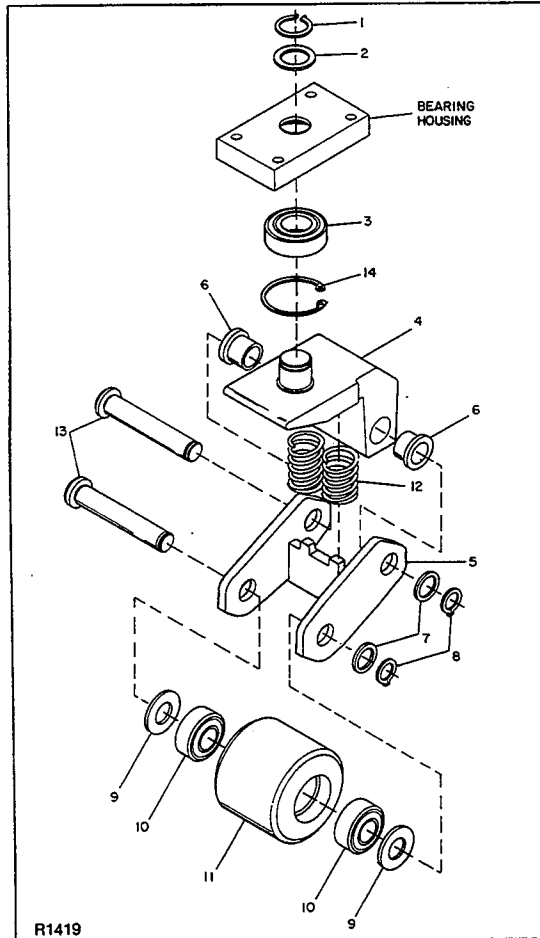
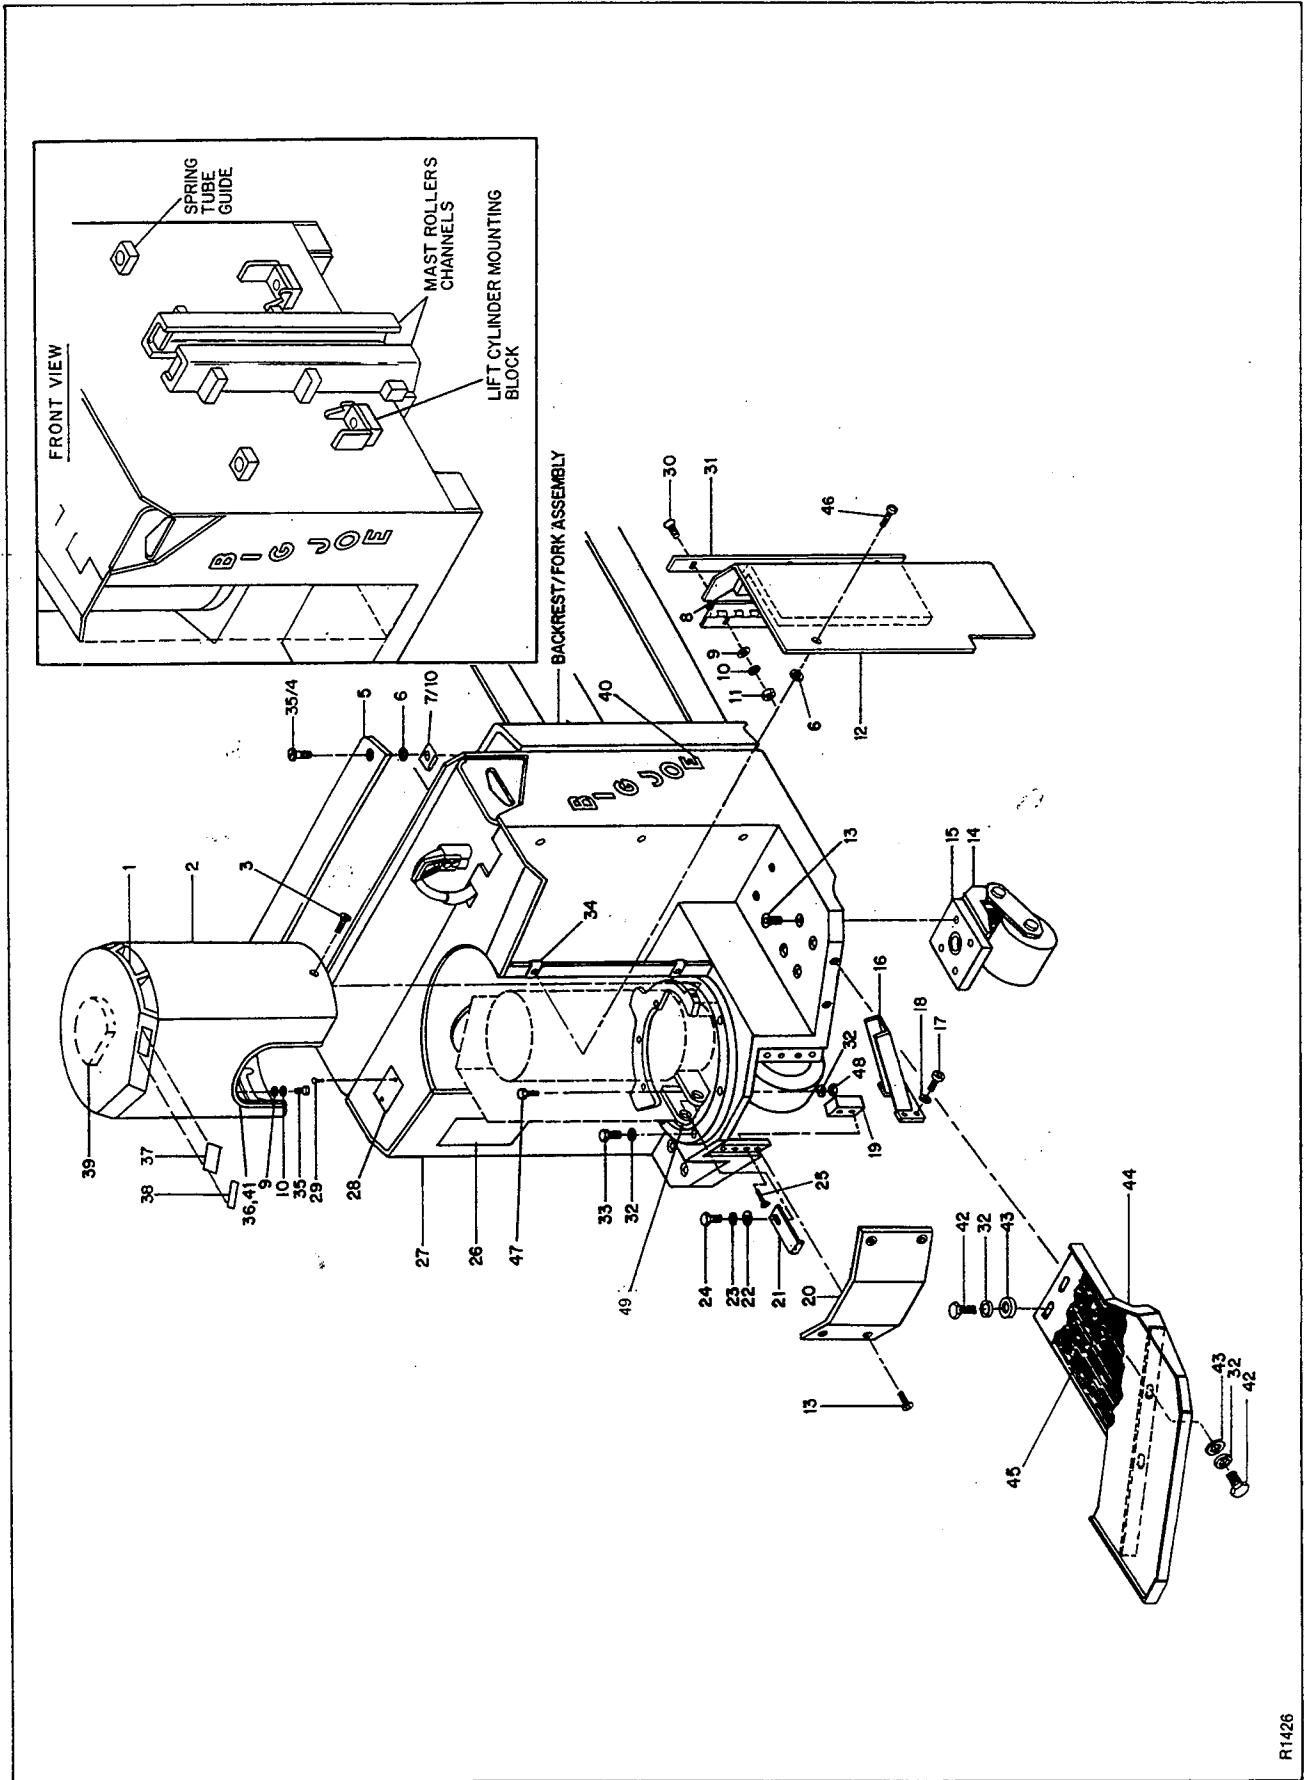

Figure 3-9. Caster Assembly
Figure 3-10. Base and Frame
3-17. Caster Bearing Replacement. (Figures 3-9 and 3-10)
5. Remove the platforms (44, figure 3-10) by removing screws (42) and washers (32 and 43).
6. Remove the four screws (13) and remove the caster assembly (14) and bearing housing (15).
7. Remove snap ring (1, figure 3-9) and spacer (2) and pull bearing housing off caster assembly.
8. Press out and discard damaged bearing (3) after removing retainer ring (14).
3-18. Caster Wheel Bearing Replacement. (Figure 3-9)
3-19. Base and Frame. (Figure 3-10)
Figure 3-10 identifies and locates parts associated with the base and frame. No special procedures are required, except the following, which explains removal of the backrest/fork assembly.
6. Remove the two screws (4, figure 3-10) that fasten the hydraulic compartment cover (5) to the truck and remove the hydraulic compartment cover.